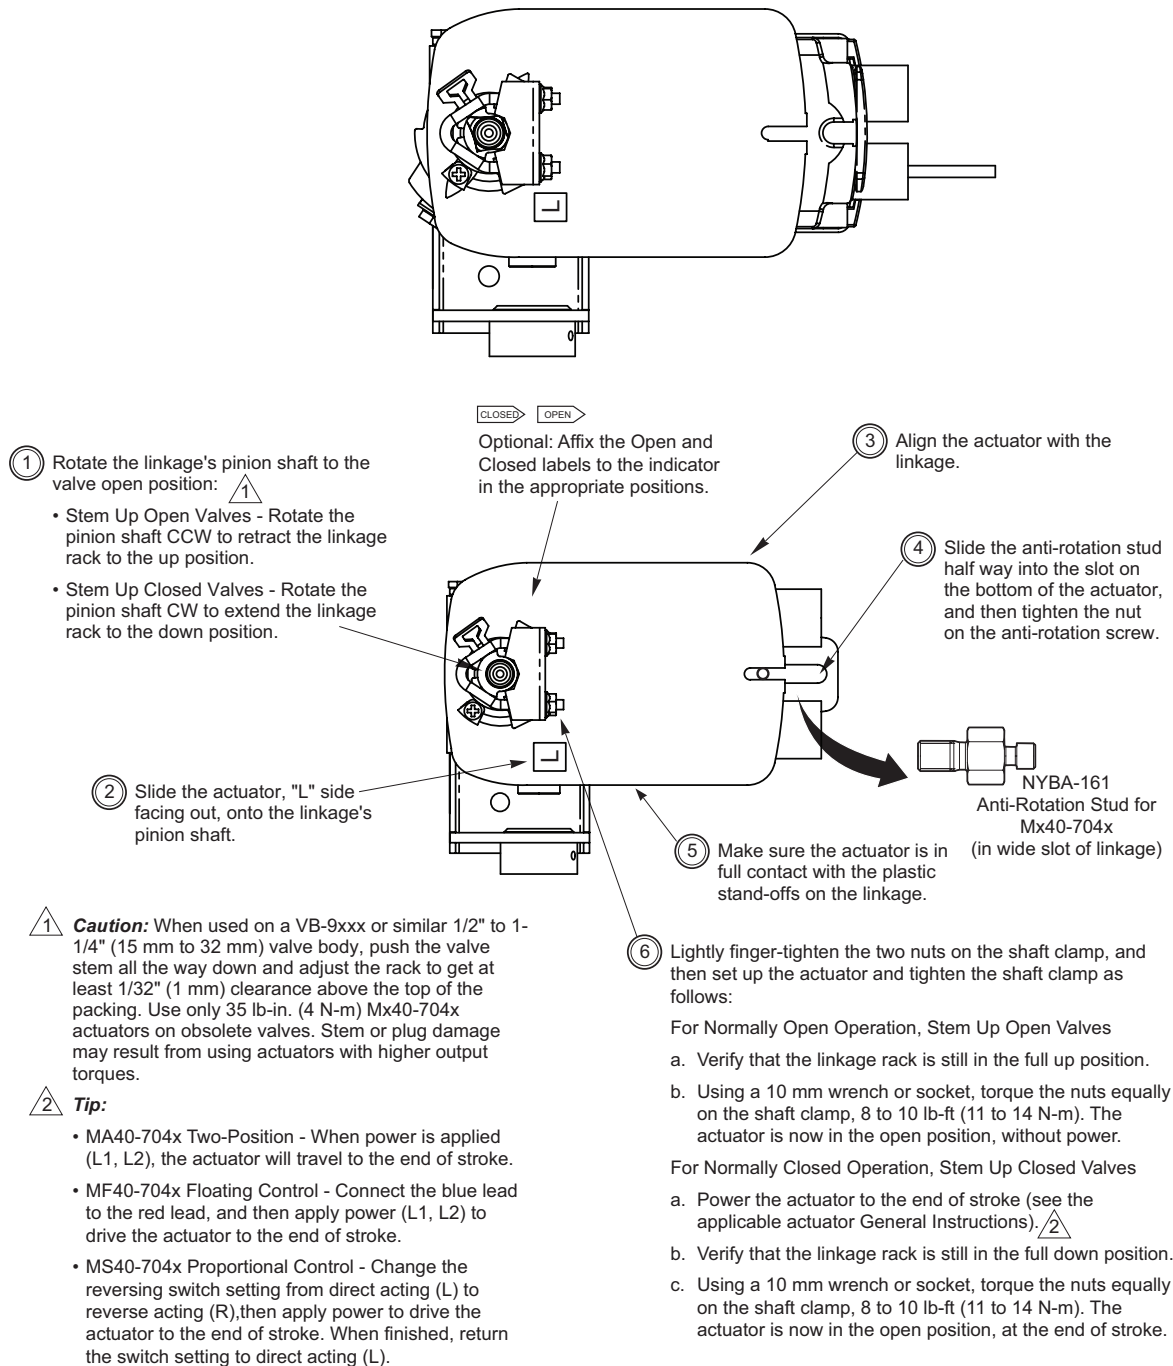

Figure-5 Mounting Mx40-704x on 2-Way Valves and Setting up Actuator/Linkage/Valve Assembly.
- a. Confirm that the NYBA-161 anti-rotation stud is installed in the wide slot of the linkage (refer to Figure-1 on page 3). Install the actuator onto the linkage and 2-way valve, and set up the assembly, according to Figure-5 below.